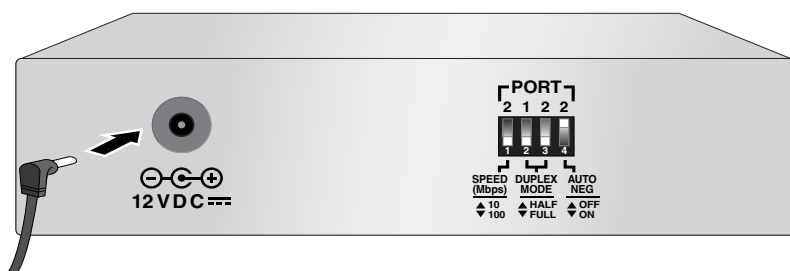

Figure 13 Connecting an 12VDC Powered Unit
1. Plug one end of the DC power cord to the power receptacle connector labelled 12VDC on the back panel of the bridging converter, as shown in Figure 13.